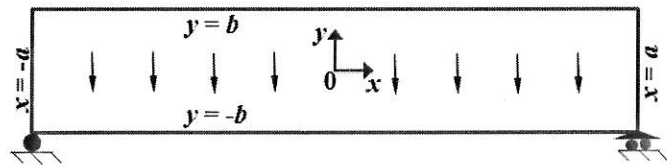

Figure 4
- (d) Figure 4 shows a simply supported beam stressed due to self weight which corresponds to $V(x, y) = \rho g y$ where, ρ, g are mass density and acceleration due to gravity. Write down the stress boundary conditions along edges $x = \pm a$ and $y = \pm b$. [Hint: Lateral load on beam gives rise to shear forces].